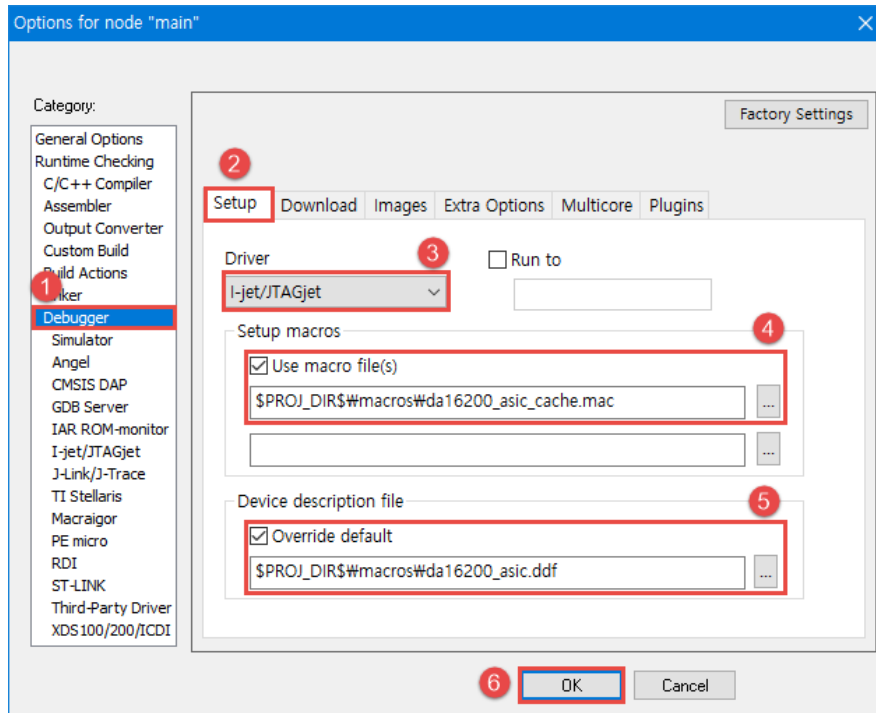

Figure 29: Debugger Setup Setting
- b. In the **Options** for node "main" window, in the **Category** list, click **Debugger** (1). See Figure 29.
- c. Select the **Setup** tab (2).
- d. In the **Driver** list, select **I-jet/JTAGjet** (3).
- e. In the **Setup macros** area (4), select the checkbox **Use macro file(s)** and set the filename to \$PROJ_DIR\$\macros\da16200_asic_cache.mac.